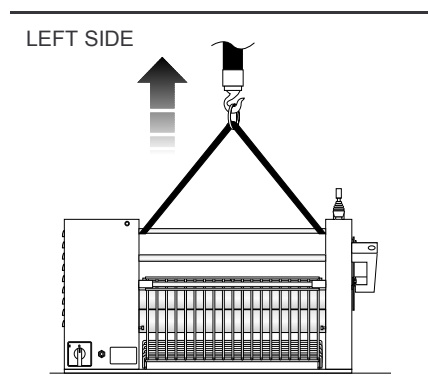

FIG.5 (Machine Lifting)
- 1- Insert the straps or the ropes suitable to the use (complying with the regulations in force) under the rods of the shoulders (See FIG.5);